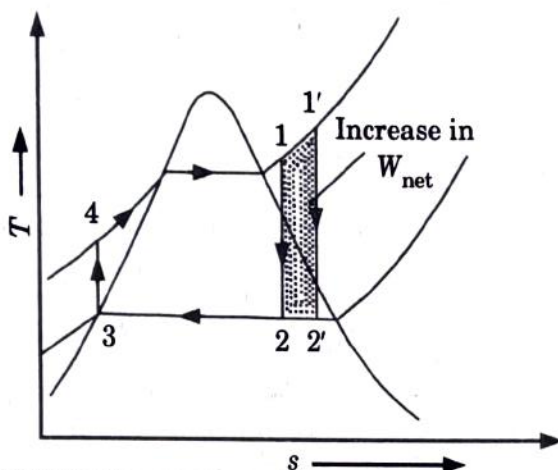

Fig. 2.3.1. T - s diagram of a Rankine cycle operating with a superheated steam.
1. Fig. 2.3.1 shows Rankine cycle with superheated steam.
2. If the heating of the working fluid is continued beyond the dry saturation point, i.e., well into the superheat regime before feeding it to the turbine (Fig. 2.3.1.) i.e., state 1' instead of state 1, the amount of heat added increases.